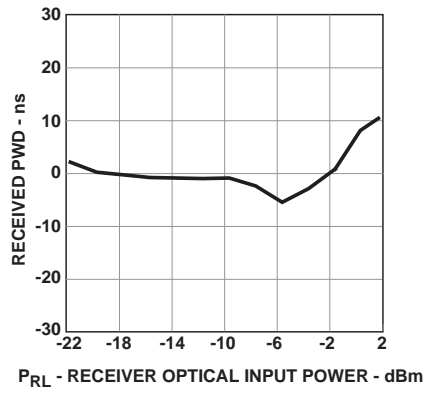

Figure 8. Typical POFR receiver pulse width distortion vs. optical power at 12 MBd
- Receiver overdrive ( $P_{RL,max}$ ) is specified as the limit where  $|PWD|$  will not exceed 30 ns. The receiver will be in the correct state (logic “0”) for optical powers above  $P_{RL,max}$ . However, it may not meet a 30% symbol period PWD if the overdrive limit is exceeded. Refer to Figure 8 for PWD performance at high received optical powers.